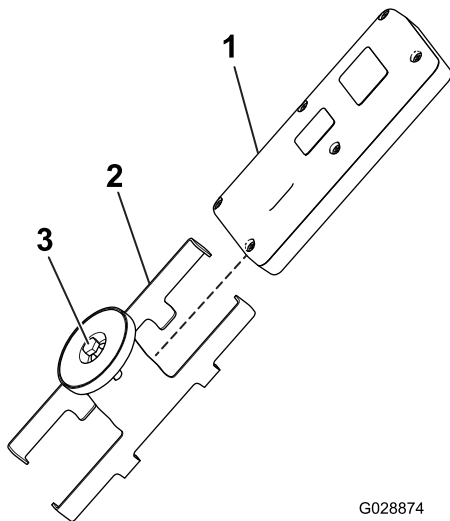

Figure 36
1. Loosen the bolt in the magnet on the magnetic remote bracket (Figure 36).
2. Slide the bracket sides apart and remove the remote (Figure 36).
8. Install the handheld remote into the magnetic remote bracket, slide the halves together to secure the remote, and tighten the bolt in the magnet (Figure 36).